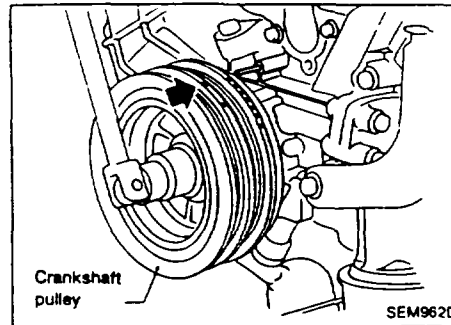

Figure 11
2. Hold the LH timing chain to keep it from binding and rotate the engine by hand to Top Dead Center, # 1 cylinder, compression stroke. (Figure 11)